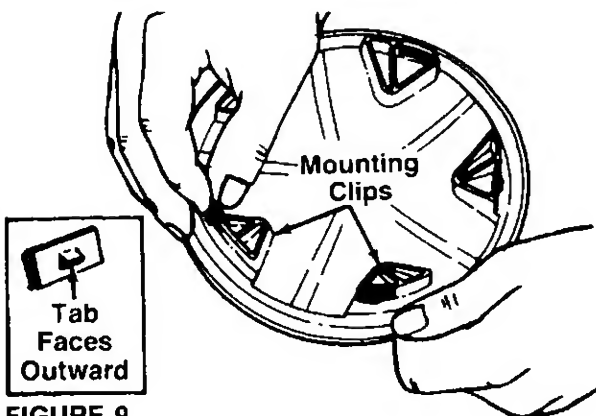

FIGURE 9.
- a. Slide five mounting clips on each hub cap as shown in figure 9, with the tabs on the mounting clips facing outward.